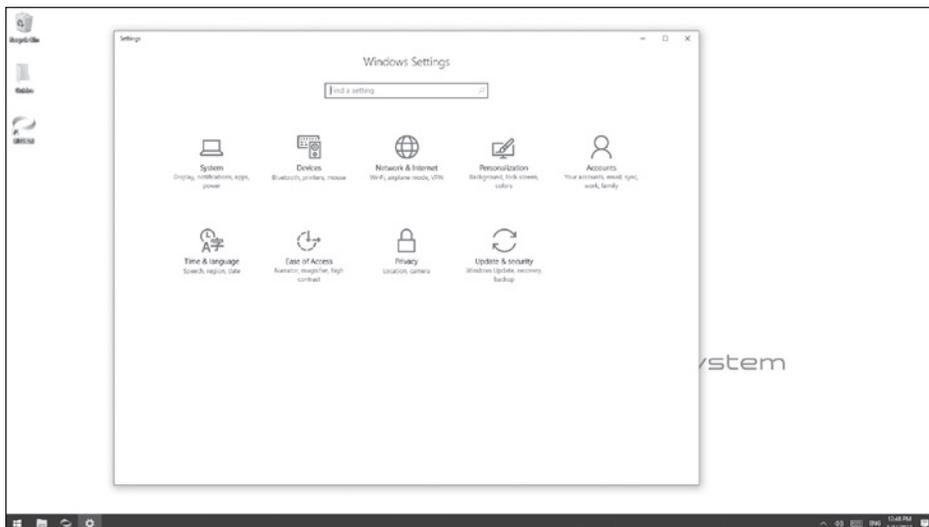

Figure 24: Windows Settings Menu
1. From the Windows Settings menu, select the Time & Language settings icon. See Figure 24.